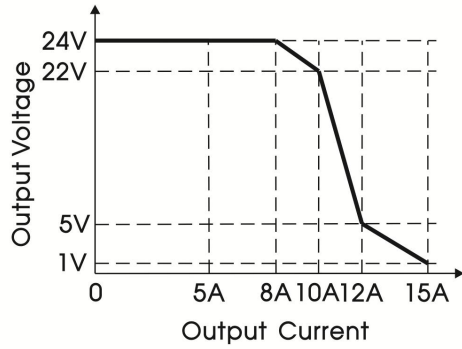

Figure 3
2.Figure 3 shows that the product will enter the overload state when the rated output current increases to 100%-150%Io (TYP.), and enter the overcurrent protection when the current > 150%Io (TYP.), and the output voltage will decrease with the increase of the output current. When the output current increases to a certain value, the product will enter the constant current mode;